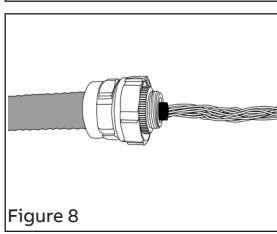

Figure 8
- See Section 2 for specific instructions for shielded data cables. Trim inner jacket (to length of 1/8"-3/8") and expose conductor bundle (Figure 8).